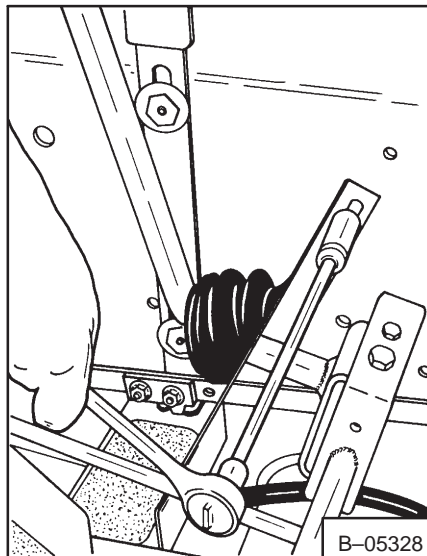

Fig. 3-5 Removing Steering Lever Shield
5. Remove the bolts from the steering lever shields (Fig. 3-5) on both sides. The shields can be removed with the steering levers.
5. Install the bolts in the steering lever shields and tighten (Fig. 3-5).